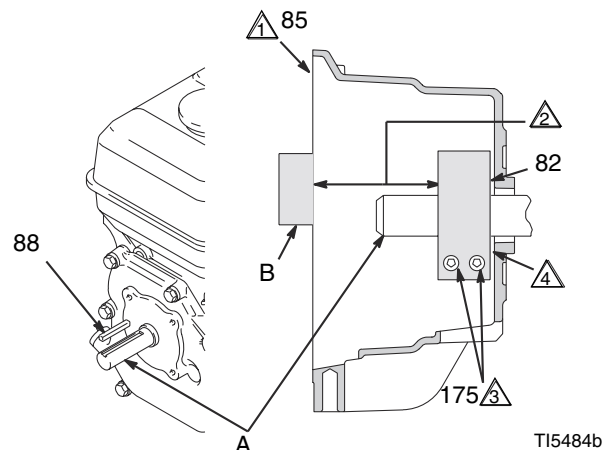

FIG. 9
4. FIG. 9. Loosen two screws (175) on clamp (82),
5. Push screwdriver into slot in clamp (82) and remove clamp.
1. FIG. 9. Install engine shaft key (88).
2. Tap clamp (82) on engine shaft (A) with plastic mallet. Maintain dimension shown note 2. Chamfer must face engine.
3. Check dimension: Place rigid, straight steel bar (B) across face of clutch housing (5). Use accurate measuring device to measure distance between bar and face of clamp. Adjust clamp as necessary. Torque two screws (175) to 125 +10 in-lb (14 +1.1 N•m).
- ① Face of clutch housing.
- ② LineLazer IV 3900: 2.55 +/- .010 in. (64.77 +/- 0.25 mm).